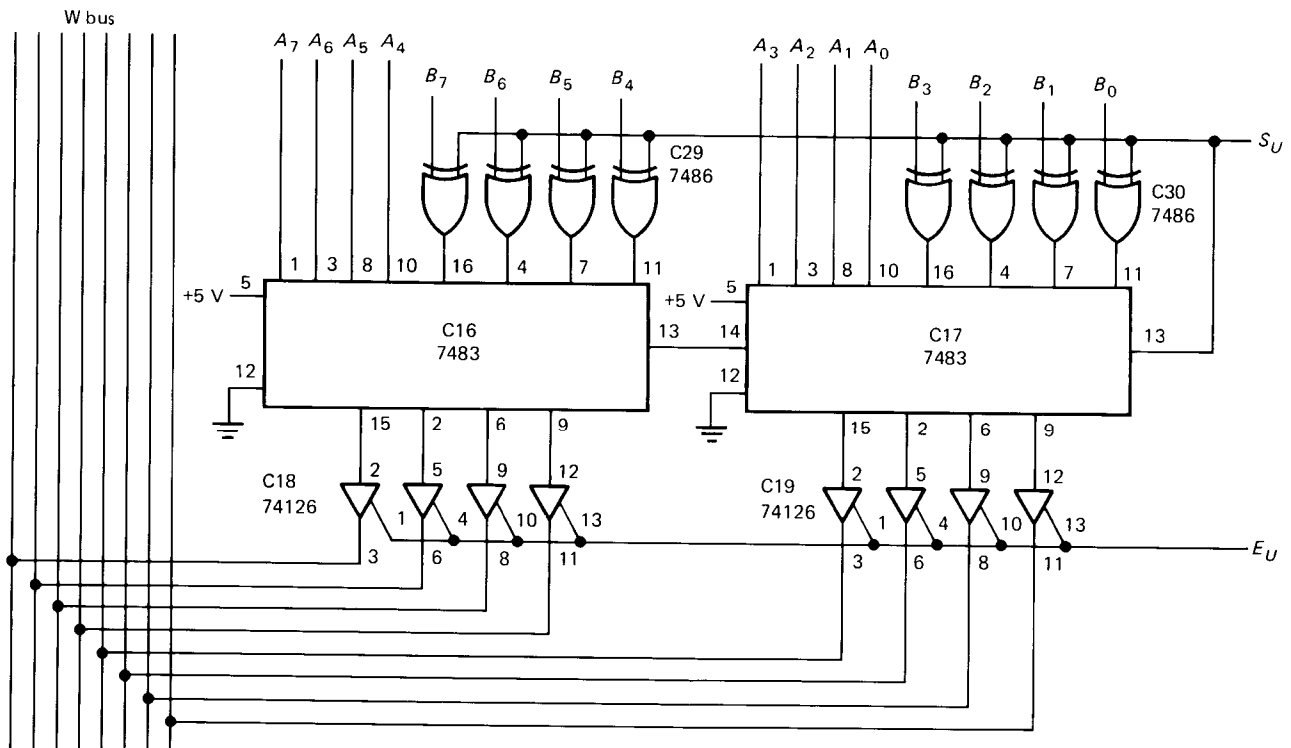

Fig. 8-35
- 8-19. Look at Fig. 8-35 and answer each of these questions.